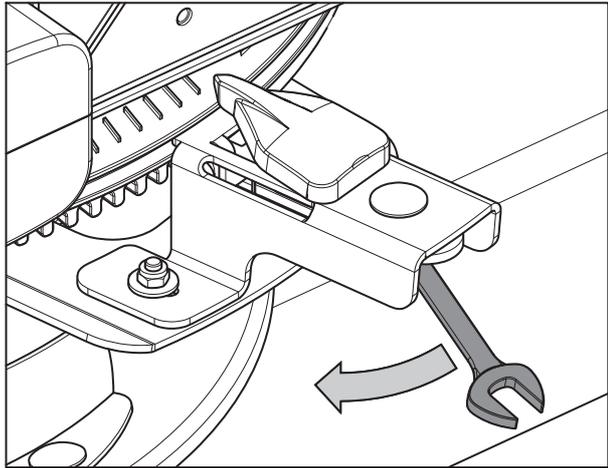

Figure 46: Releasing the lock
- ▷ The lock is released and the pointer can be moved freely (see figure 46).